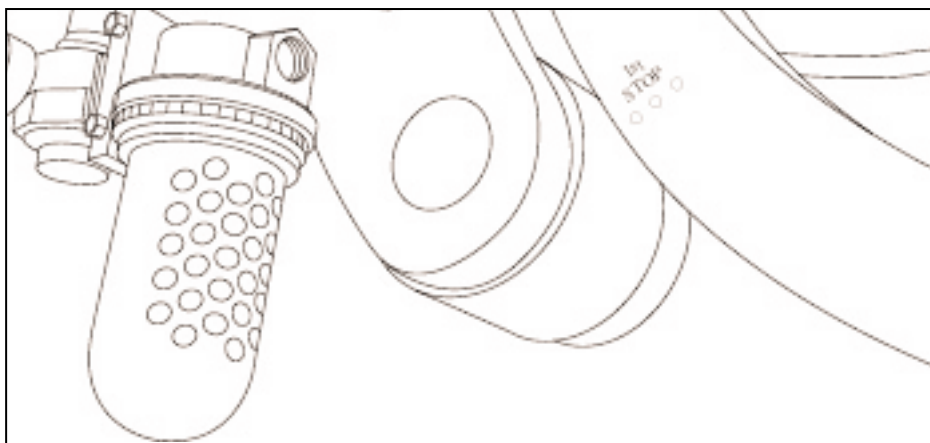
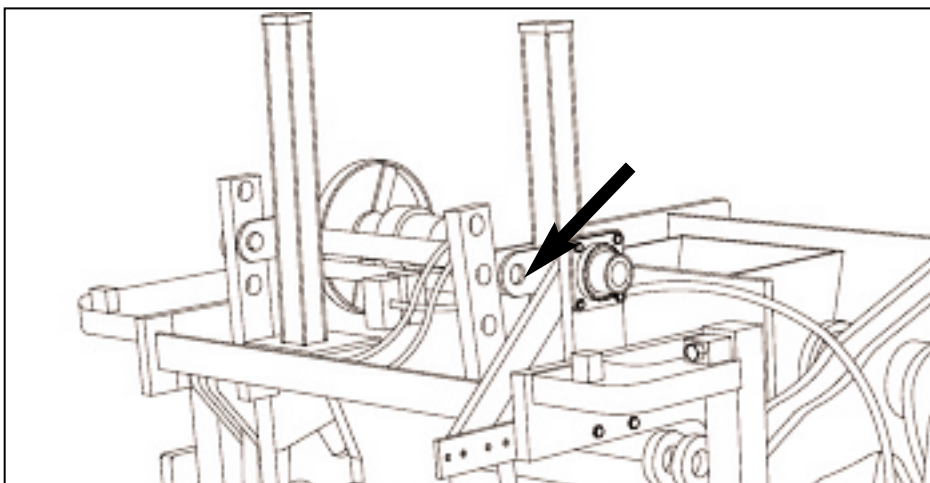

Figure 4.33 "FIRST STOP" (R.H. side of machine).
Figure 4.34 DISCONNECTING THE AUTOFEED LINKAGES.
4.3.1 Run machine to "first stop" (see figure 4.33). Turn off clutch and drive motor and manually lower the autofeed to its lowest position. Disconnect the two autofeed linkages at the top (see figure 4.34).